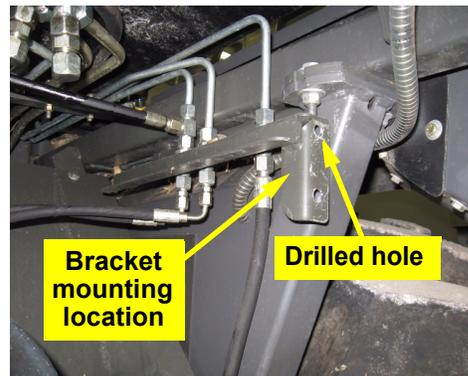

Figure 2a: Bracket mounting location and drilled hole
a. The automated steering block will be mounted on the left side of the machine under the cab (Figure 2a).
b. Using bracket **E** as a template, drill one 3/8 hole in the bracket mounting location (Figures 2a and 2b).